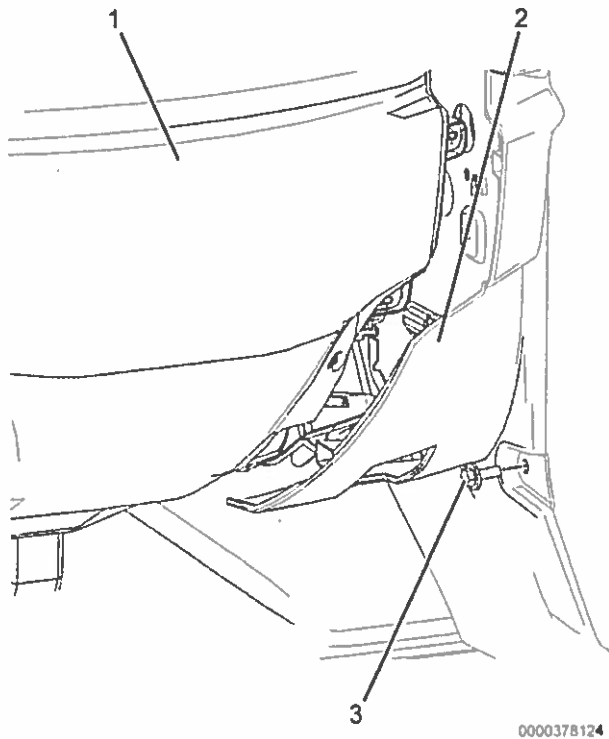

Figure 1. Floor Duct Trim Panel.
7. Remove bolt (Figure 1, Item 3) from floor duct trim panel (Figure 1, Item 2).
8. Using fiber stick or equivalent, disengage locking clips securing passenger floor duct trim panel to HVAC housing trim panel (Figure 1, Item 1).